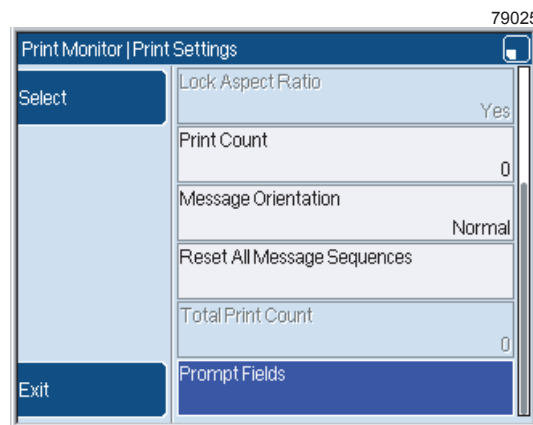

Figure 30. Print Settings page: Prompt Fields option
- Press the **Print Settings** key to display the **Print Settings** page. Then select the **Prompt Fields** option (see Figure 30) to display the **Prompted Field Edit** page.